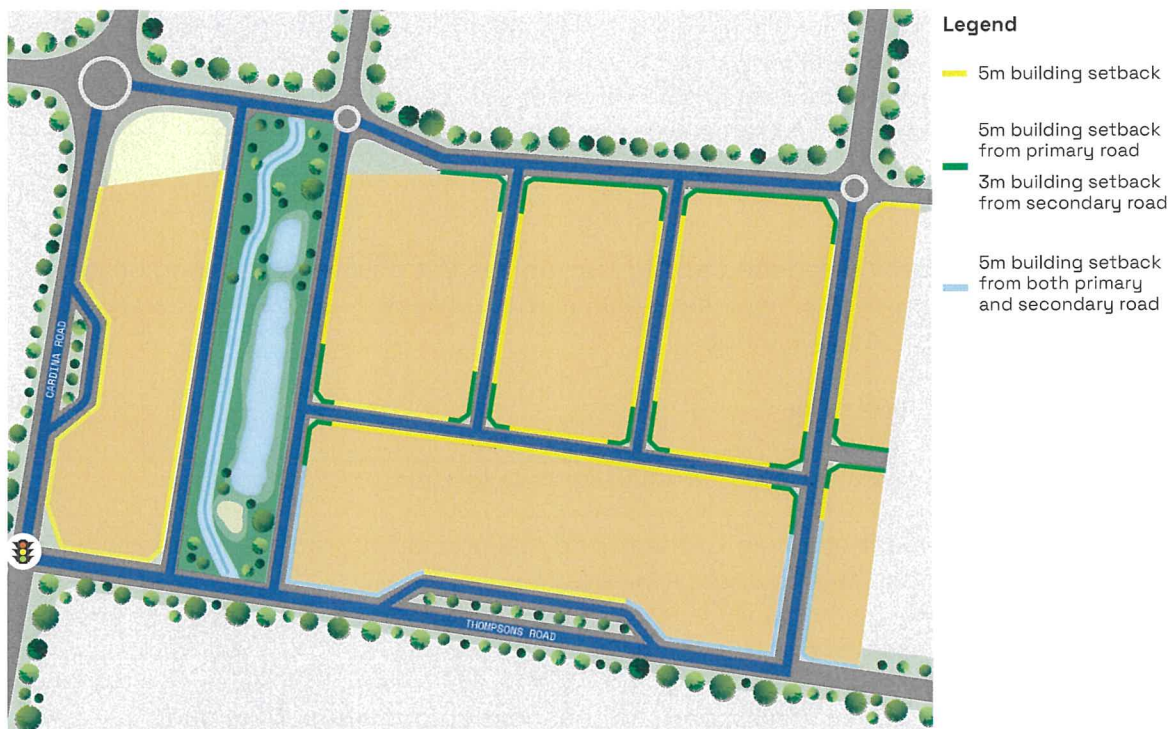

Figure 3: Building Setback Guide
- A minimum building setback of **five** metres to the primary street frontage from the allotment boundary **must** be provided as per Figure 3: Building Setback Guide;
- No building setback is required at the side, unless on a corner allotment as per Figure 3: Building Setback Guide.
- No building setback is required at the rear, unless the building is backing onto open space reserves in which case a five metre setback must be provided as per Figure 3: Building Setback Guide.